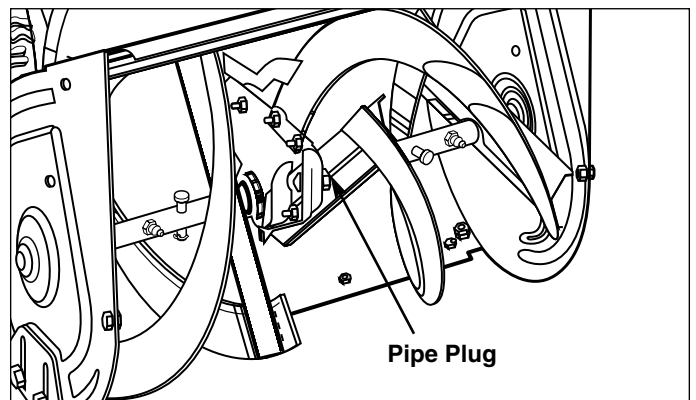

Figure 12. Checking Auger Gear Case Lubrication
2. Remove the pipe plug (Figure 12).